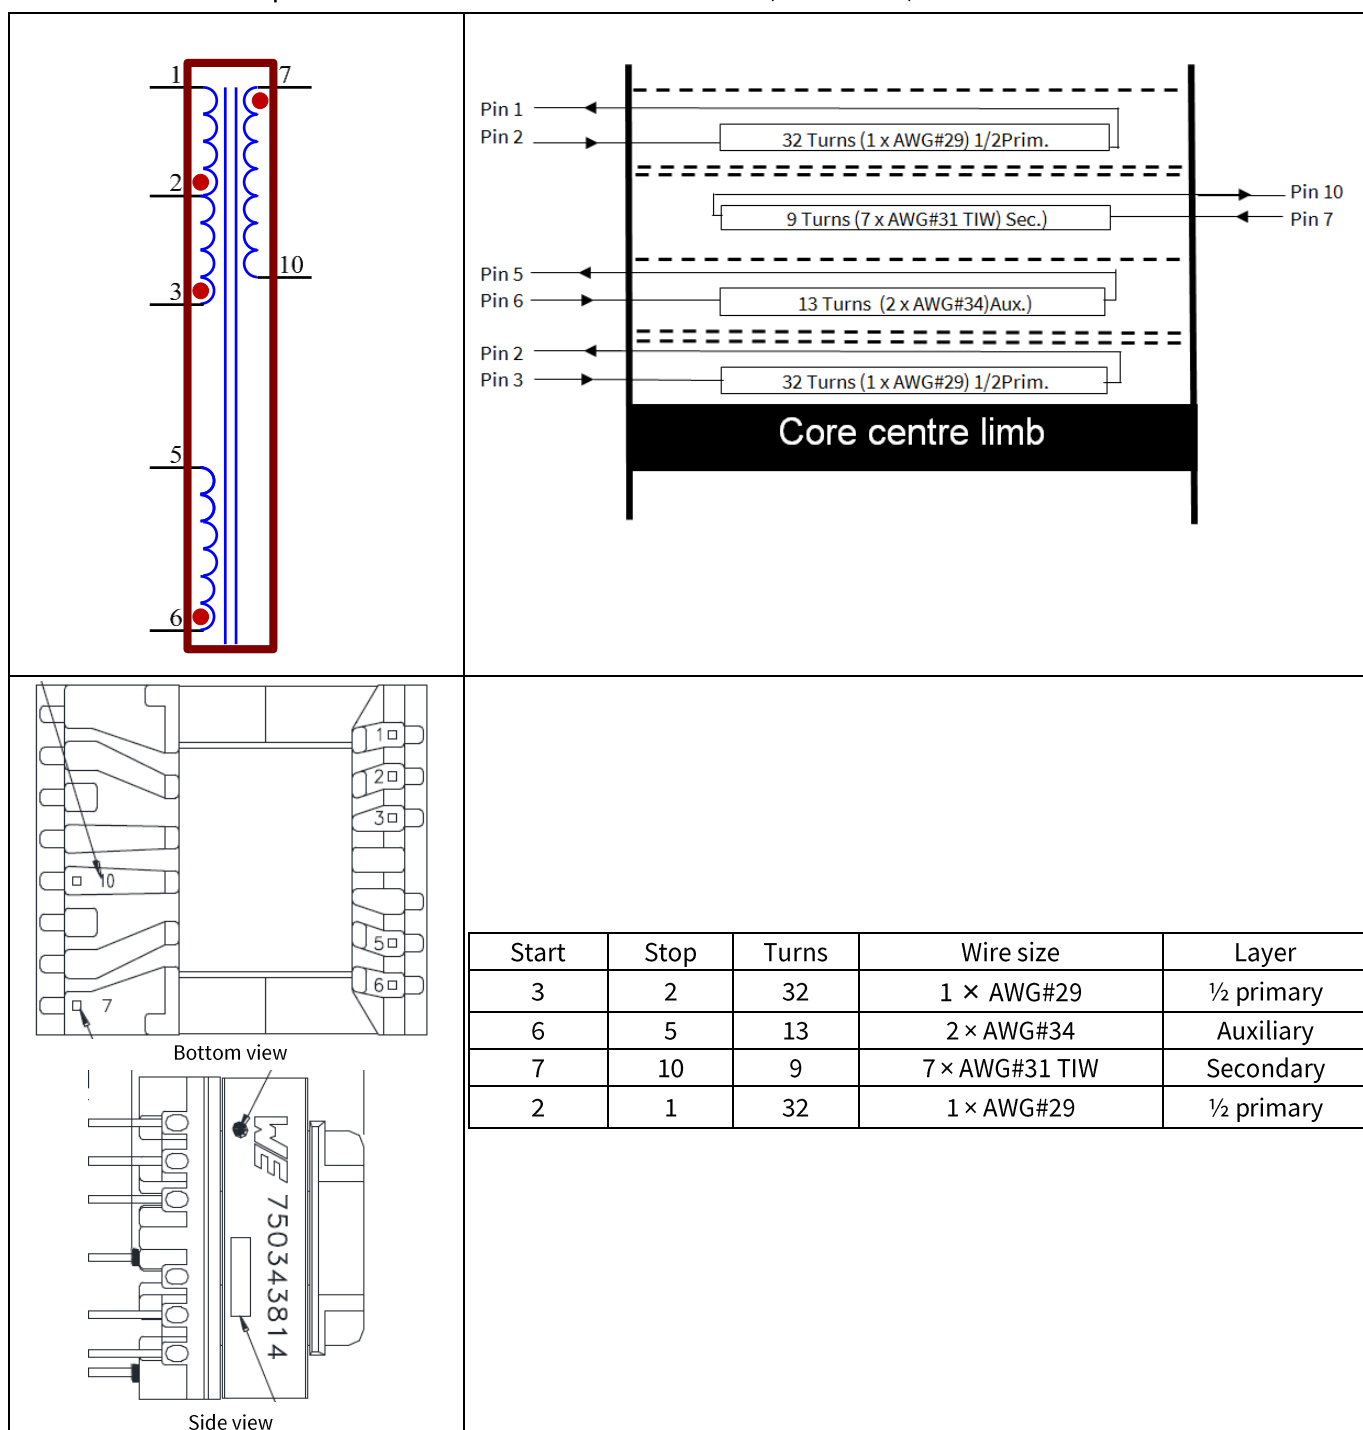

Figure 10 Transformer structure
- Good transformer winding coupling is very important. Without this there would be high leakage inductance and a lot of switching spike and HF noise. The most effective method is to adopt sandwich winding (see Figure 10) where the secondary winding is in the middle of the winding and covered by the primary winding on the bottom and top layer. Shielding the transformer can reduce the HF noise. The outermost shield wrapped around the transformer cores with copper foil can help to reduce leakage flux and reduce the noise coupling to nearby components. The inner shield (copper foil or copper wire winding) between the transformer windings can help to reduce the parasitic capacitance and reduce the HF noise coupling. Both shields need to tie to the negative of C13 to achieve the best performance, but note that the inner shield approach would result in more energy loss.